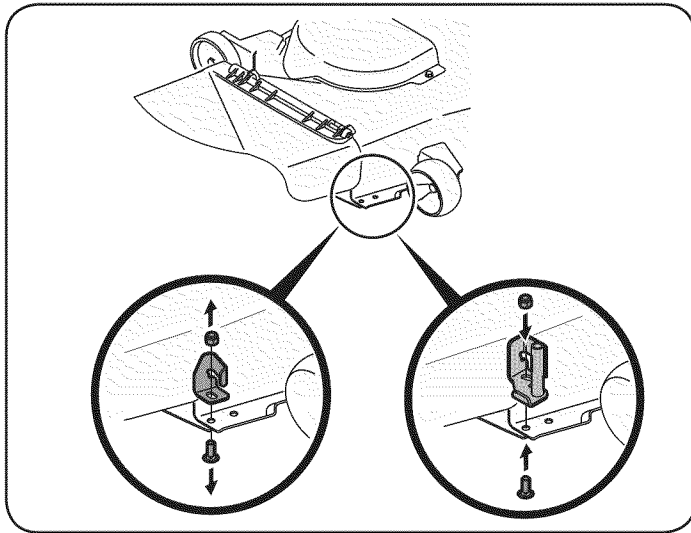

Figure 20
1. Remove the carriage bolt and lock nut holding the chute stop to the deck. See the left Inset of Fig. 20. Save the hardware.
2. Install the new chute stop bracket, from the loose parts, at the same position on the deck. See the right Inset of Fig. 20. Secure with the hardware removed earlier.